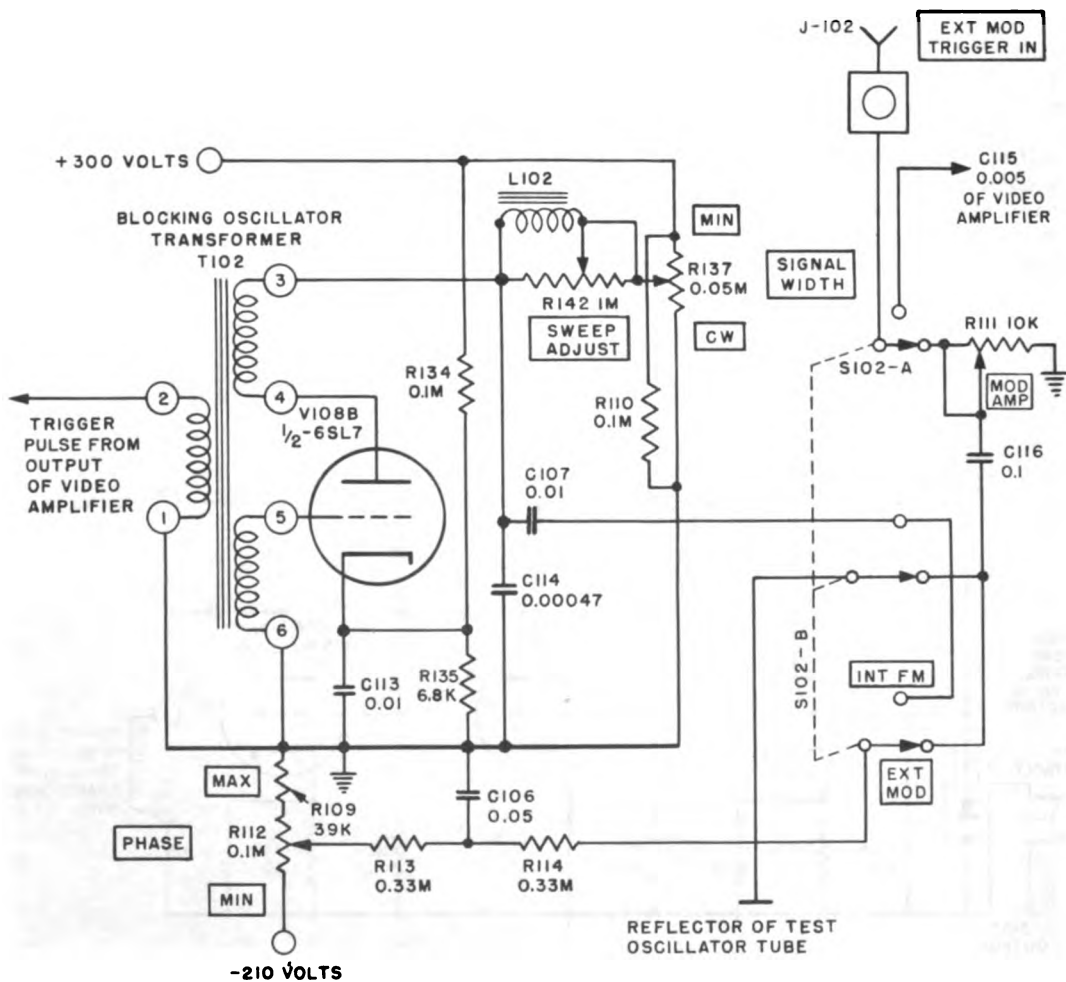

Figure 2-14. Blocking-Oscillator Sweep and Trigger-Switching Circuit—Simplified Schematic
(b) A video trigger is applied to the EXT MOD-TRIGGER IN panel receptacle with switch S102 on INT-FM. (See figure 2-14.) The trigger voltage pulses are fed through capacitor C115 directly to the grid of V108A, the final stage of the amplifier.
TRIGGER IN receptacle with the switch on EXT MOD (figure 2-14.) The modulation voltage is fed through capacitor C116 directly to the reflector electrode of the test-oscillator tube.
(2) BLOCKING OSCILLATOR SWEEP AND TRIGGER SWITCHING CIRCUIT (figure 2-14).